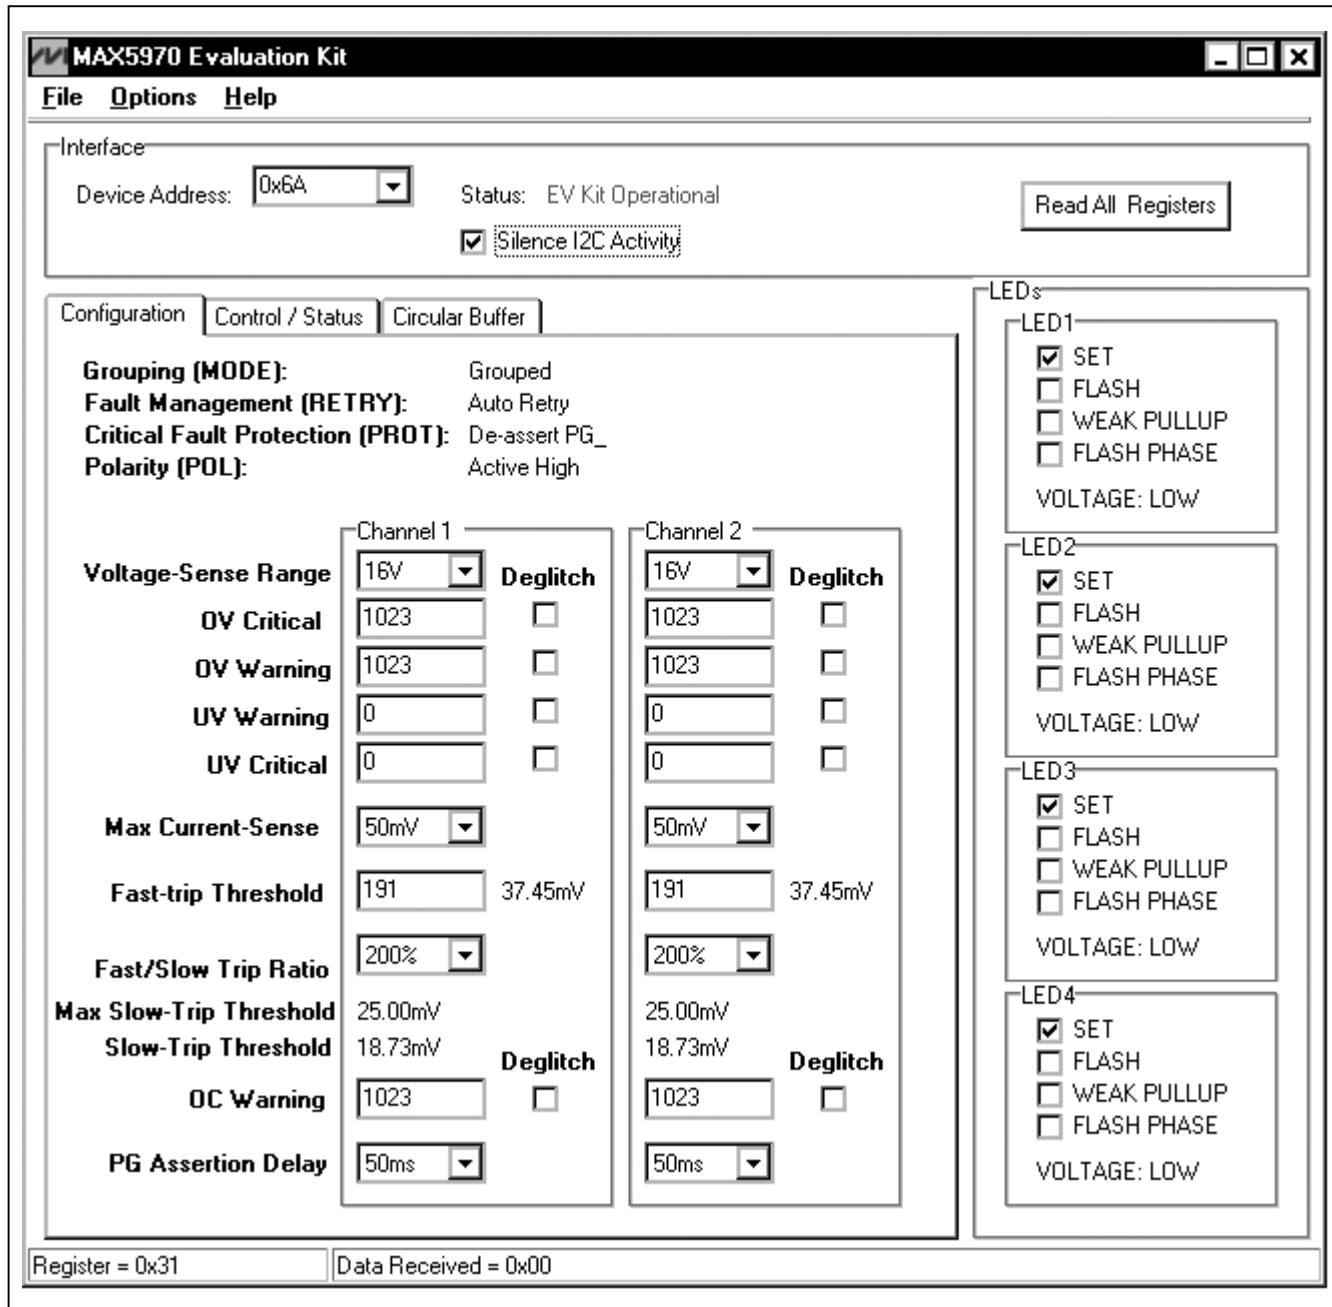

Figure 1. MAX5970 EV Kit Software Main Window (Configuration Tab)
- 11) Start the EV kit software by opening its icon in the **Start | Programs** menu. The EV kit software main window appears, as shown in Figure 1. Observe as the program automatically detects the address of the MAX5970 and starts the main program.
The MAX5970 EV kit user interface (Figure 1) is easy to operate; use the mouse, or press the Tab key to navigate with the arrow keys. Each of the buttons correspond to bits in the command and configuration bytes. By clicking on them, the correct I2C-compatible write operation is generated to update the internal registers of the MAX5970.
The EV kit software **Configuration** tab sheet (Figure 1) displays the **Grouping (MODE)**, **Fault Management (RETRY)**, **Critical Fault Protection (PROT)**, and **Polarity (POL)** general settings at the top, while grouping channel-specific settings below. See Table 2 for GUI control details for each channel. Check the **Deglitch** checkboxes located to the right of the **OV Critical**, **OV Warning**, **UV Warning**, **UV Critical**, and **OC Warning** input controls to enable the deglitch feature for those settings.